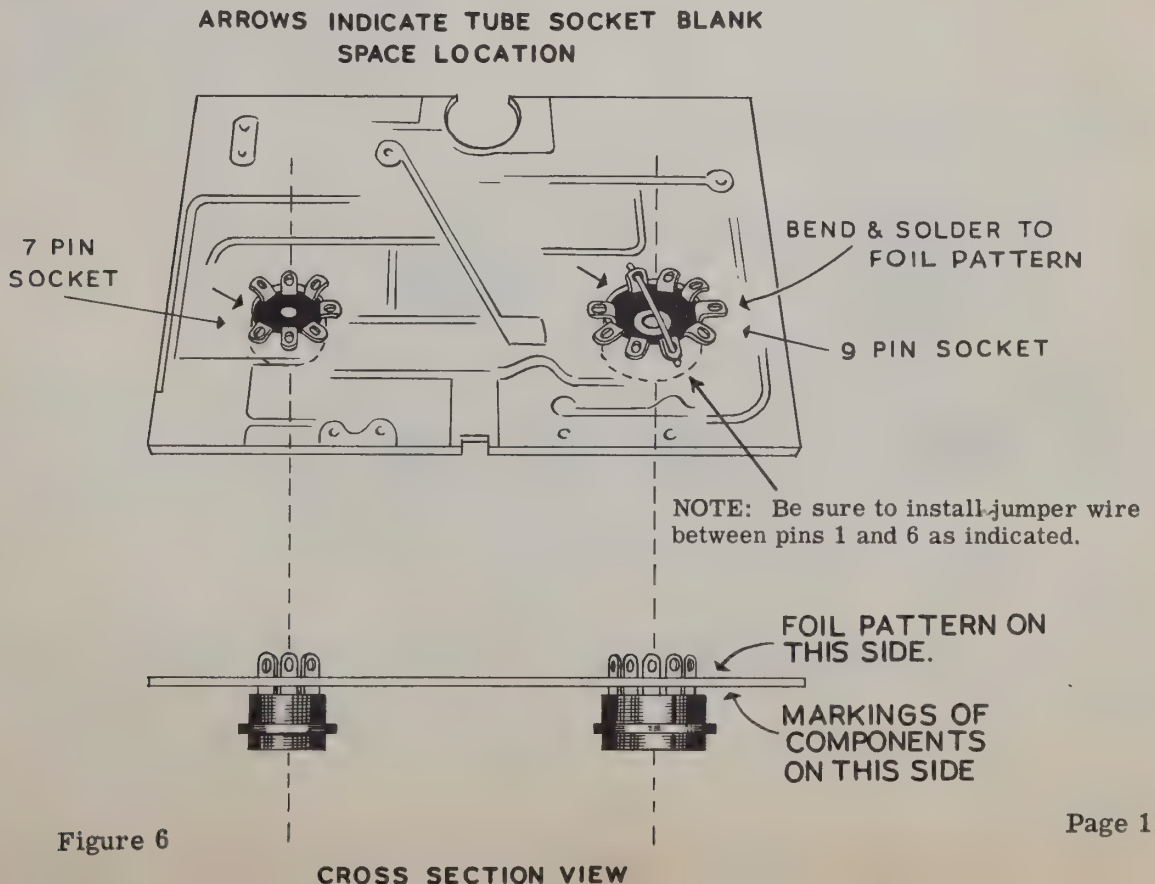

Figure 6
- (✓) Orient the spacing between socket pins 1 and 7 so that it corresponds with the placement shown in Figure 6. With a low wattage small tipped soldering iron, using only rosin core type solder, begin soldering the socket pins to the copper foil terminals. See notes on printed circuit soldering in the INTRODUCTION on Page 3. Note that pin 6 of the 7-pin socket has no circuit connection and soldering only serves to increase mechanical mounting strength.